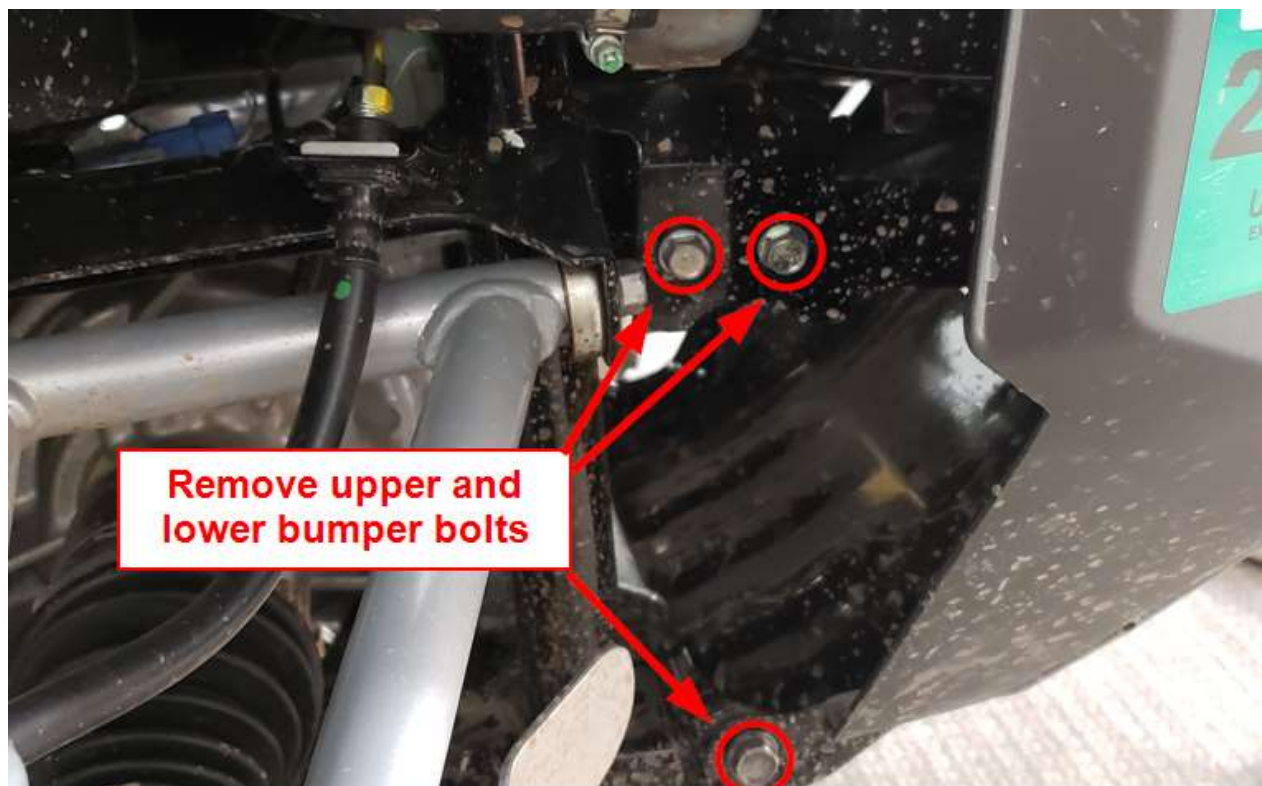

Figure 4
- f. Remove the bolts that hold the bumper on as shown in Figure 4 and pull the bumper forward 1-2" making additional room for the front plastic assembly to be removed.